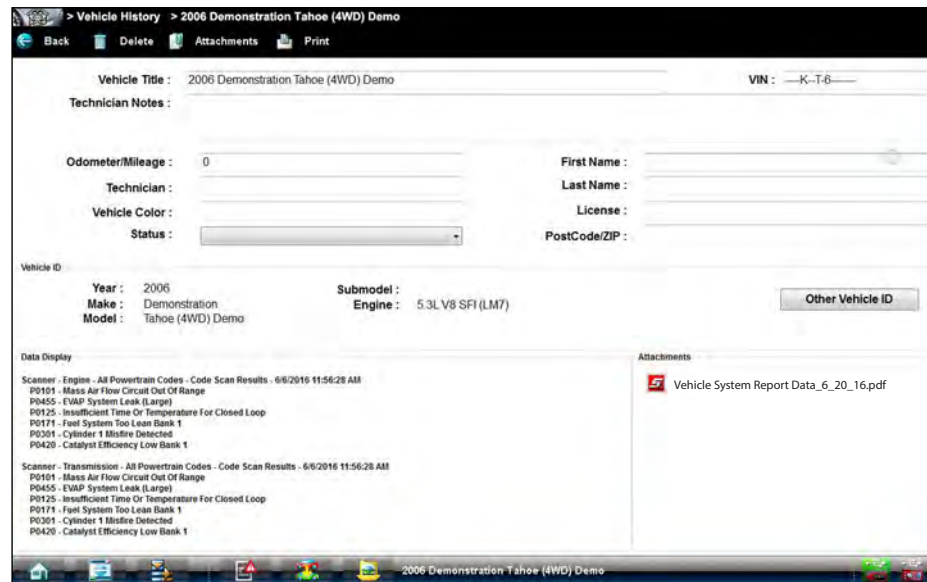

Figure 4-25
3. Select and open the Vehicle System Report PDF file from the attachments box (Figure 4-25).